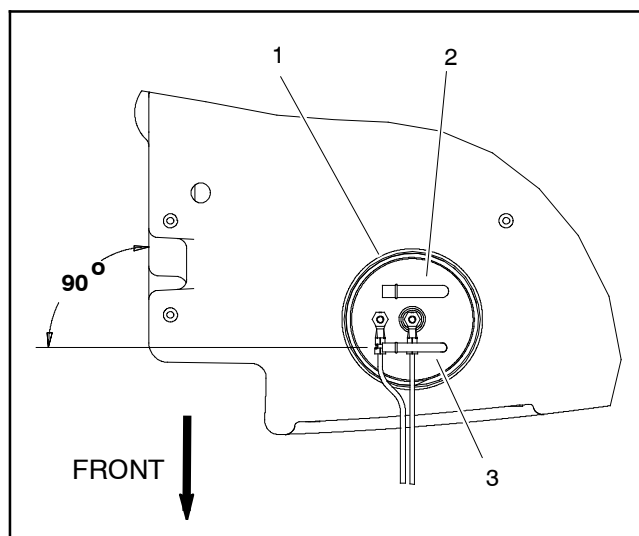

Figure 7
IMPORTANT: If fuel sender is removed from fuel tank, note orientation of fittings for assembly purposes (Fig. 7).
- A. If fuel sender was removed from fuel tank, make sure that fuel fittings on sender are orientated at 90° from right side of tank as shown in Figure 7. Also, to prevent damage to fuel sender during assembly, make sure that fuel sender does not turn as sender cap is tightened.
2. Correctly connect supply (item 7) and return (item 9) fuel hoses to fittings on the top of the fuel sender. Secure fuel hoses with hose clamps.